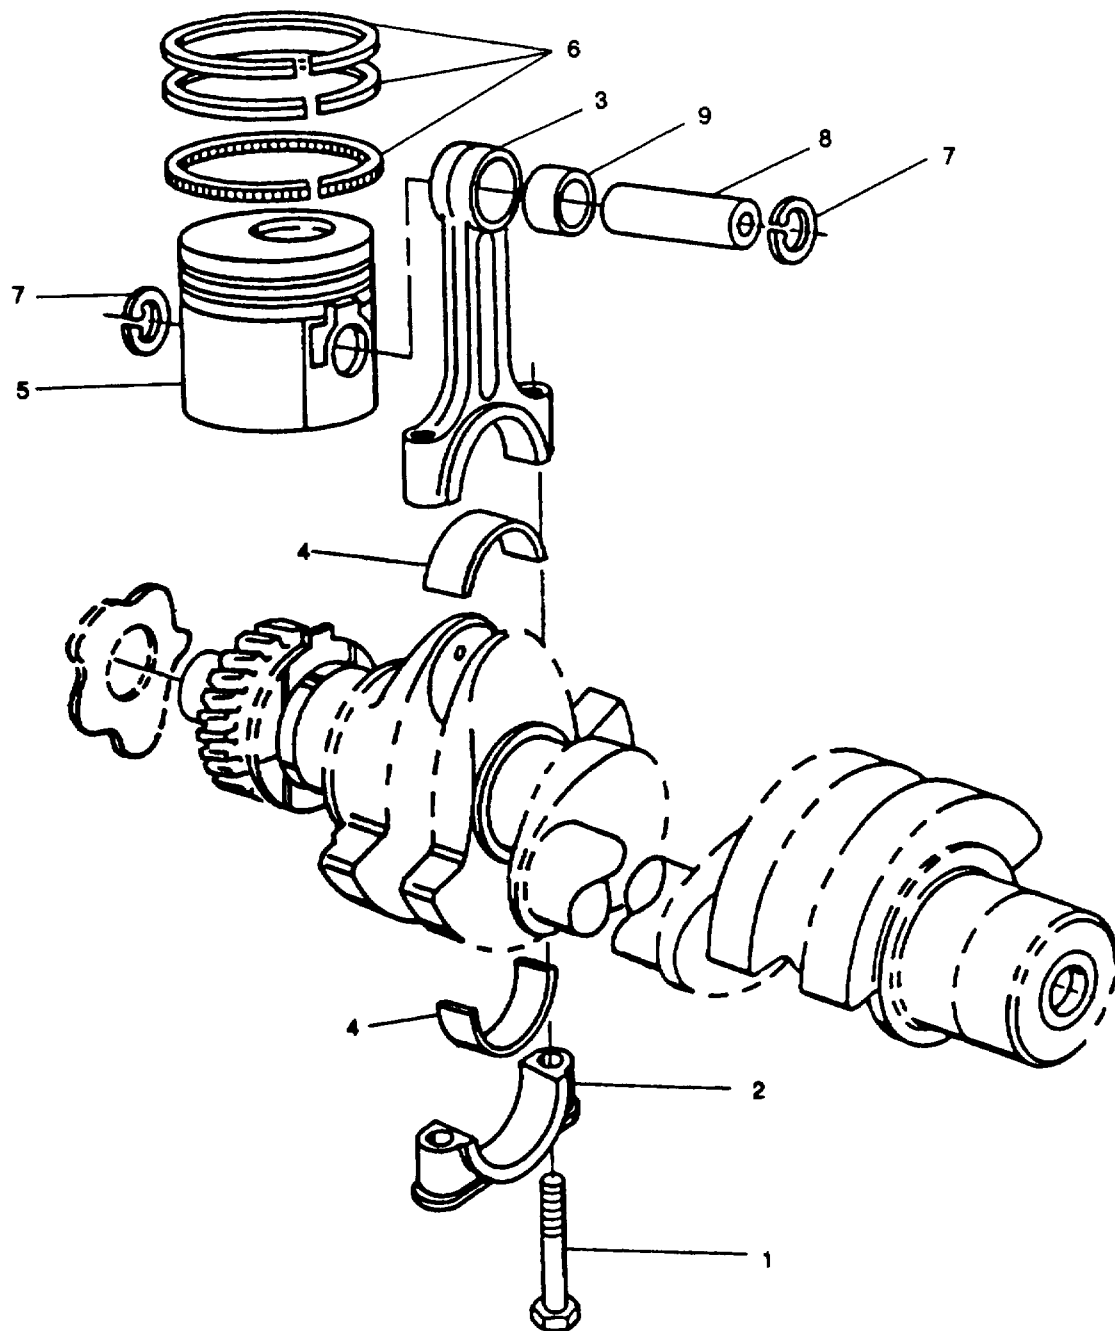

FIGURE 3-36. Piston and Connecting Rod Assemblies
- d. Rotate crankshaft as necessary to gain access to connecting rod bearing cap capscrews (1, FIGURE 3-36).
- b. Clean piston (5, FIGURE 3-36) by removing all traces of carbon from both upper and underside of crown and ring grooves.
- c. Check for correct gap clearance. Refer to TABLE 3-6, with piston rings (6) in an unworn section of cylinder barrel.
- d. Clean connecting rod (3).
- e. Check bushing (9) for wear. Replace if worn.
**Lay piston rings (6, FIGURE 3-36) out in order of removal to aid in installation.**
- a. Use a standard ring expander to remove piston rings (6).
- b. Remove retaining rings (7) and push pin (8) out of connecting rod (3) and piston (5). Separate piston (5) from connecting rod (3).
- c. If necessary, replace bushing (9) from connecting rod (3).
- d. Install piston (5) to connecting rod (3) with wording CAMSHAFT SIDE on top of piston to same side as identification marks on connecting rod big end and cap.
- e. Insert piston pin (8) and secure with two retaining rings (7).
**If necessary, separate each bearing cap (2, FIGURE 3-36) and connecting rod (3) as it is installed. Do not mix bearing caps and connecting rods.**
- b. If damaged, install new connecting rod big end bearing shells (4, FIGURE 3-36) ensuring they are correctly located in both connecting rod and cap.
- c. Stagger piston ring (6) gaps so each ring gap is set at 90 degrees to adjacent rings and 45 degrees from piston pin (8) axis.
- h. Install two bolts (1) and tighten them to 222 in-lbs (25 Nm).